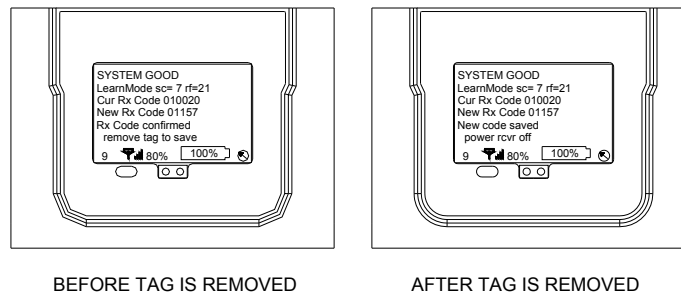

Figure 5—LCD screen display during step 4
4. Once the code is confirmed, remove the LEARN tag from the harness. Then power the receiver off (main crane power switch) - reference figure 5